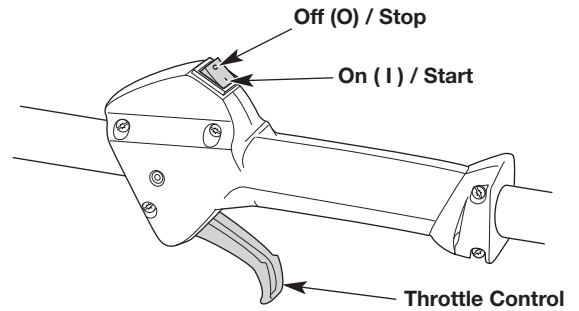
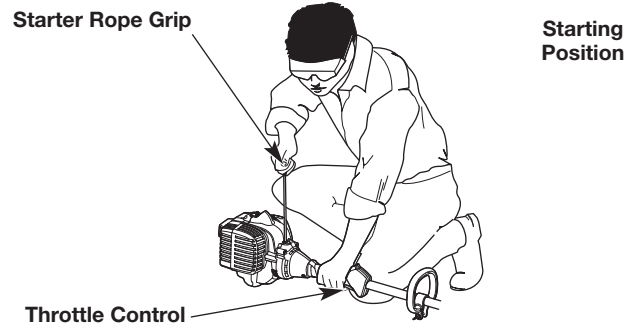

Fig. 4
Fig. 6
**WARNING:** Avoid accidentally starting the unit. To avoid serious injury, the operator and the unit must be in a stable position when pulling the starter rope (Fig. 6).
**NOTE:** There is no need to turn the unit on. The On/Off switch is in the ON ( I ) position at all times (Fig. 4).
5. Crouch in the starting position (Fig. 6).
6. Squeeze the throttle control (Fig. 4) and pull the starter rope with a controlled and steady motion **5 times** (Fig. 6).
2. Press and hold the On/Off switch in the OFF (O) position until the engine comes to a complete stop (Fig. 4).